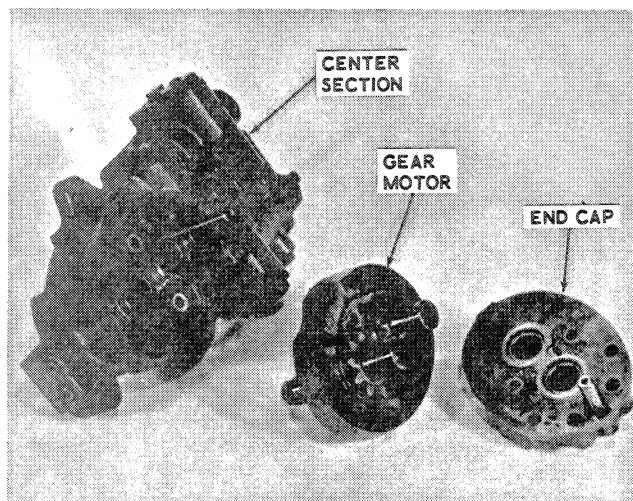

Figure 23
The gear motor portion of the Hydrogear Transmission consists of three (3) major components: (see Figure 23) end cap, spacer plate, and mounting housing. The mating faces between all of these sections are lapped surfaces flat within .0001 inch. To allow clearance for gear lubrication, the gears are lapped .0012 to .0014 inch thinner than the spacer plate. All of the split line faces may be re-lapped to remove stock, if necessary, and all should be touch lapped to clean up the faces prior to reassembly. Maximum stock removal from various parts is as follows:
(1) Spacer Plate & Gears	.005 inch
(2) Center Section Face	.010 inch
(3) End Cap	.010 inch